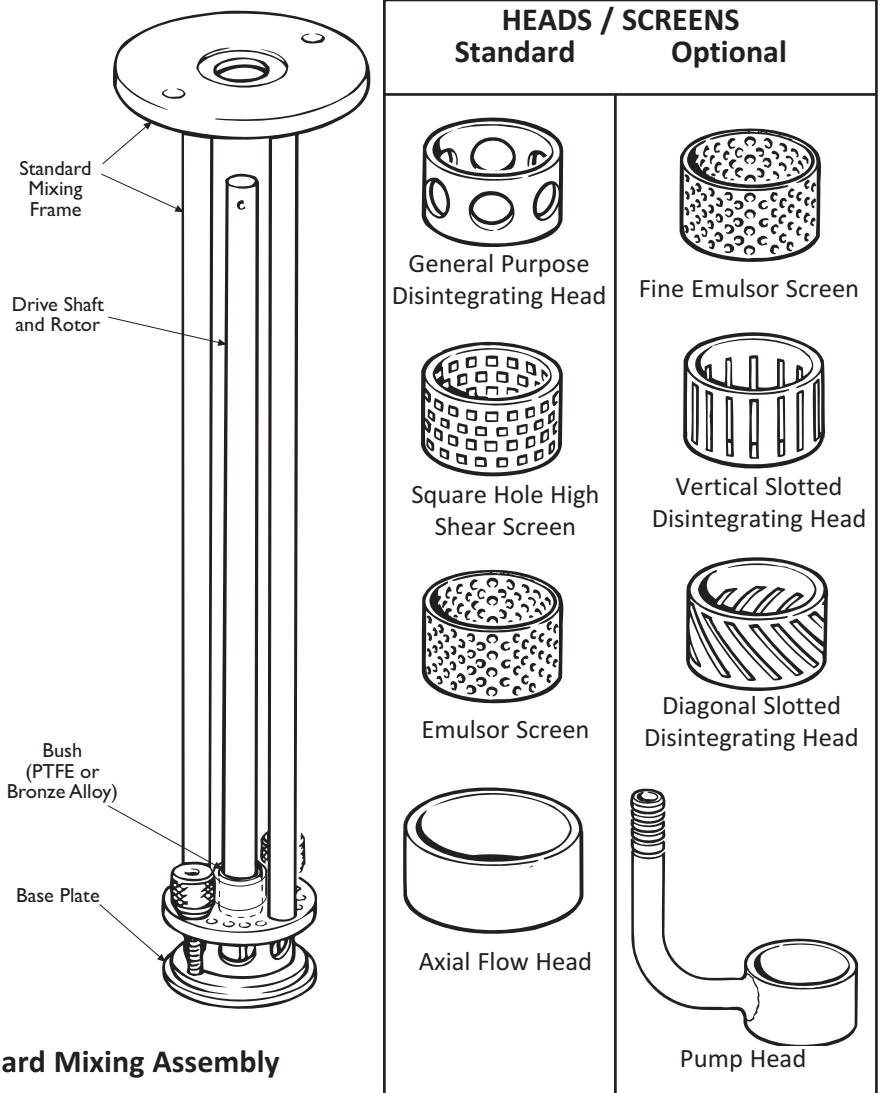

Fig. 4 Standard Mixing Assembly
The L5M-A mixer is normally supplied with a standard two arm mixing assembly and a selection of interchangeable heads and screens as shown on FIG. 4. All of the optional accessories described in the following paragraphs are interchangeable with the L5M-A mixer and available as optional extras. Silverson Machines Inc. will be pleased to advise and quote for your specific requirements. When interchanging mixing assemblies please refer to the installation section of this manual for instructions. The Operation section of this manual recommends which head/screen should be used with certain mixing techniques and details how to change the head/screen.
4.3.1 MIXING ASSEMBLY (FIG. 4)